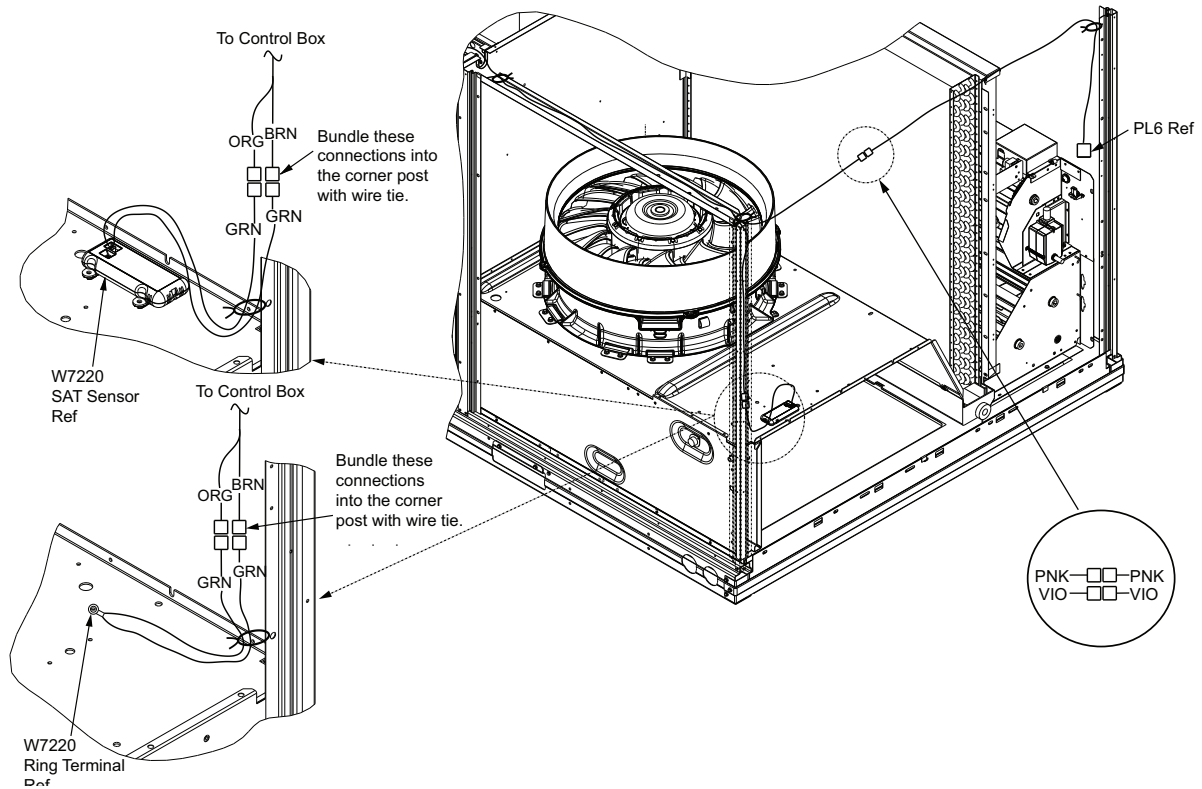
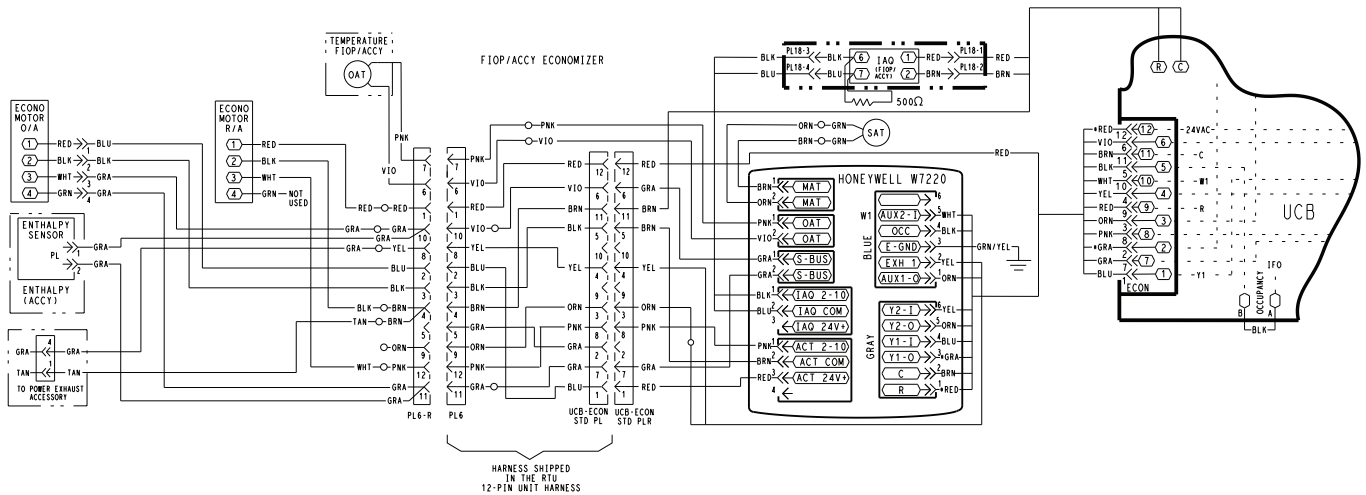
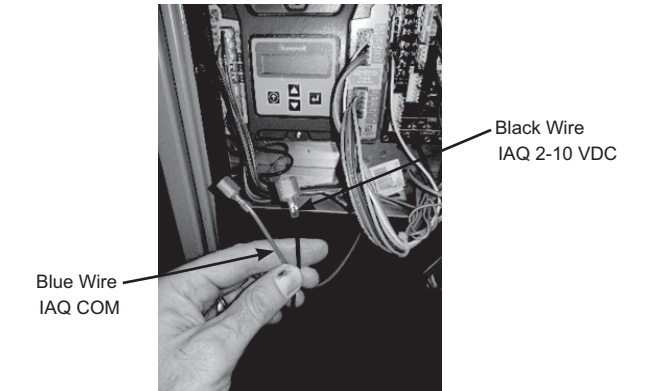

Fig. 15 — Supply Air Sensor Installation W7220 (Vane Axial Fan System)
Fig. 16 — Economizer Wiring Diagram
Fig. 24 — CO₂ Wiring Connections to Controller
holes. (See Fig. 15.) Connect one of the 2 green wire harnesses into the HH79AH001 sensor and then connect the green wires to the orange and brown wires routed from the control. (See Fig. 16.)
22. The supply air temperature sensor looks like an eyelet terminal with wires running to it (HH79ZZ007). The sensor is located on the “crimp end” and is sealed from moisture. Mount the supply air temperature sensor (provided) to the fan deck, near the right hand side corner post. (See Fig. 15.)
23. Connect the pink and violet wires routed from the controller harness to the pink and violet terminals in the wire bundle in the indoor blower section. (See Fig. 15 and 16.)
Refer to Fig. 16 for EconoMi\$er X wiring. Follow DCV instructions if demand controlled ventilation (CO₂ sensor) is used. The CO₂ sensor will wire into the blue and black connections at the controller as shown in Fig. 24. If a field-installed CO₂ sensor is connected to the EconoMi\$er X controller, a demand controlled ventilation strategy will operate automatically. As the CO₂ level in the space increases above the setpoint (on the EconoMi\$er X controller), the minimum position of the dampers will be increased proportionally, until the Maximum Ventilation setting is reached. As the space CO₂ level decreases because of the increase in fresh air, the outdoor damper will follow the higher demand condition from the DCV mode or from the free cooling mode.